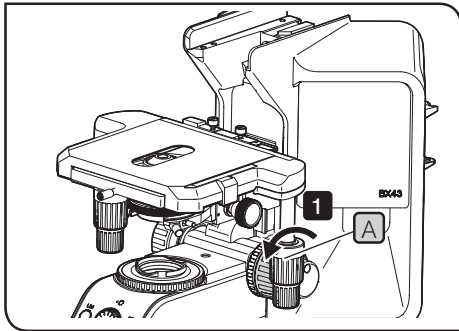

Fig.52
**6 Attaching the specimen holder (Fig.52 to 57)**
When using the regular specimen holder (Fig.52, 53)